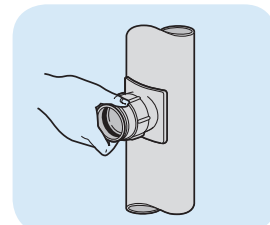

Fig. 12
- Slacken nut on boss to full extent. Enter boss into hole keeping the keyway to be the last piece to enter the hole. Tighten outer locking nut (Fig. 12).